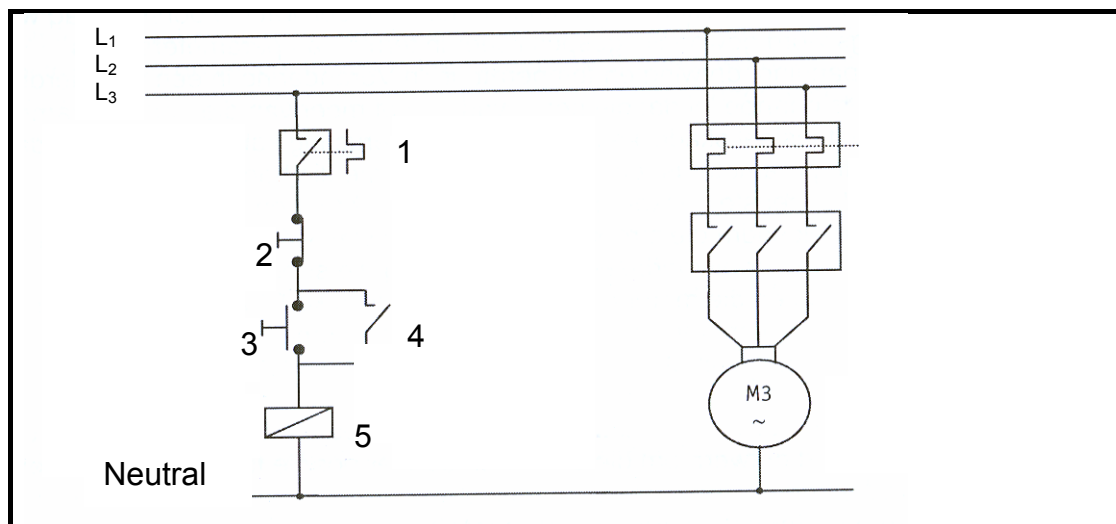

FIGURE 10.1
10.5 The circuit diagram shown in FIGURE 10.1 below represents the control circuit and power circuit of a direct-on-line starter.